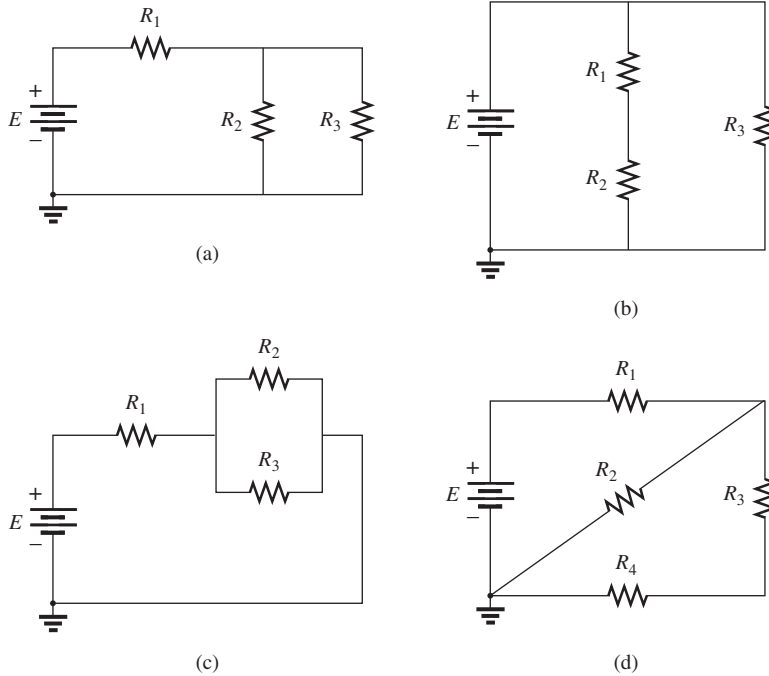

FIG. 5.85
- For each configuration in Fig. 5.85, find the individual (not combinations of) elements (voltage sources and/or resistors) that are in series. If necessary, use the fact that elements in